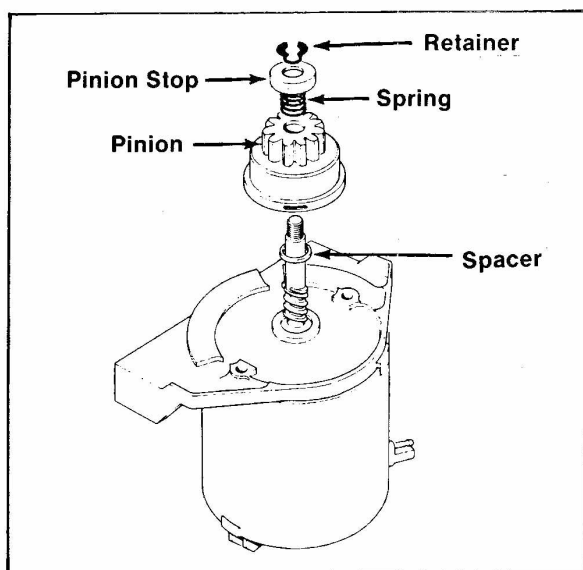

Figure 3-27
5. The serviceable components on the starter are shown in Fig. 3-27.
2. Assemble the starter motor components as shown in Fig. 3-27.